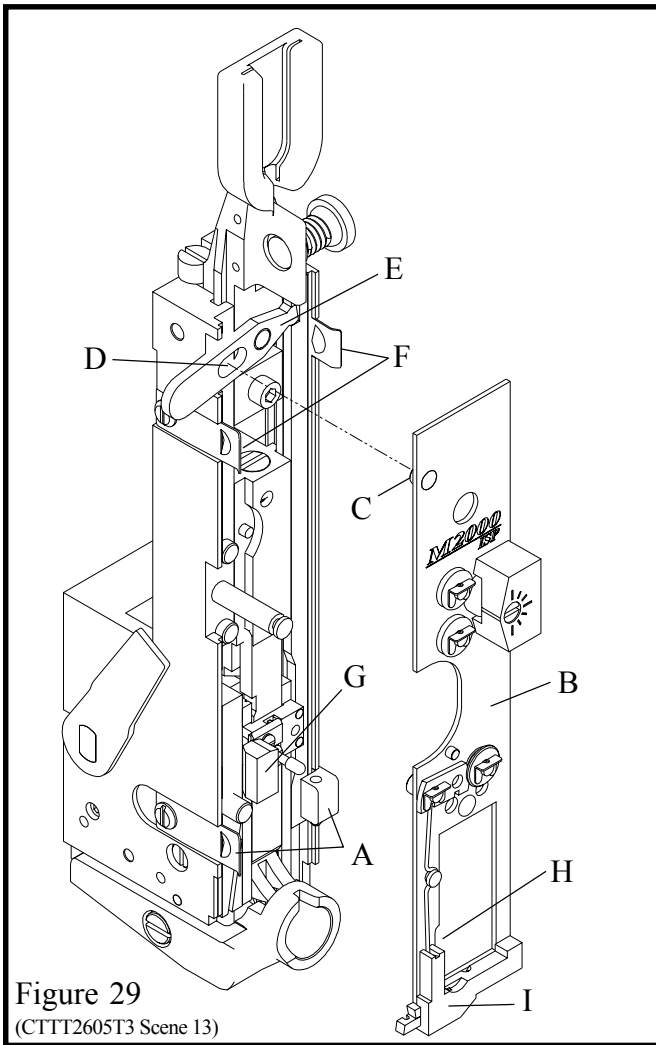

Figure 29
## NOTE: (Figure 29)
7. Loosen the two face plate retaining clips (Index A, Figure 29) and rotate them downward.